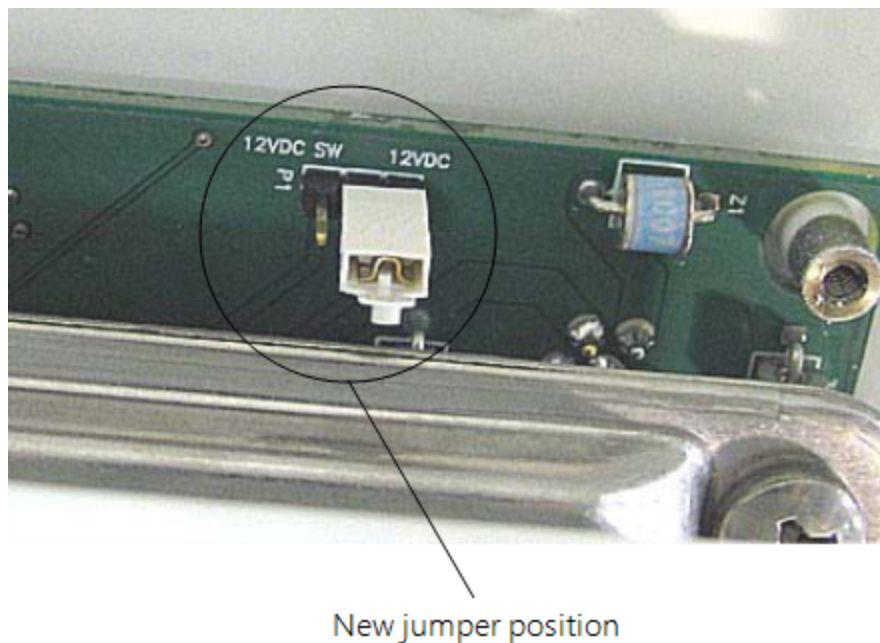

FIGURE 6-15. Jumper set for WindSonic1
5. Move the jumper at the top of the PCB so that it is placed over the centre and right pins (FIGURE 6-15 (p. 28)).